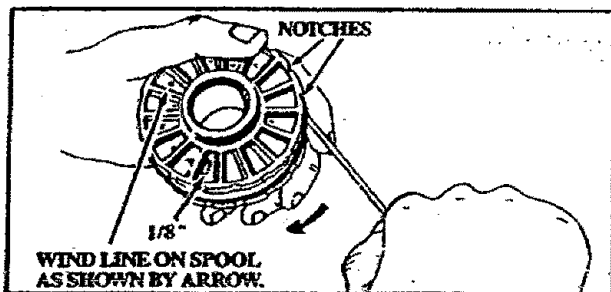

Figure 23
- Insert 1/16" to 1/8" of the end of the Line through one of the holes in the rim of the Spool. Allow no more than 1/8" Line to extend beyond the rim to avoid interference with line release action. Figure 23.
- Wind the Line onto the Spool in the direction shown by the arrow on the Spool and as tightly and evenly as possible so the Line will feed properly. Figure 23.